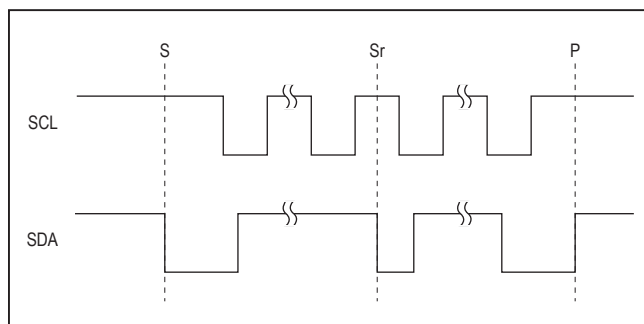

Figure 6. I2C START, STOP and REPEATED START Conditions
When writing to the MAX14745 using I2C, the master sends a START condition (S) followed by the MAX14745 I2C address. After the address, the master sends the register address of the register that is to be programmed. The master then ends communication by issuing a STOP condition (P) to relinquish control of the bus, or a REPEATED START condition (Sr) to communicate to another I2C slave. See Figure 6.